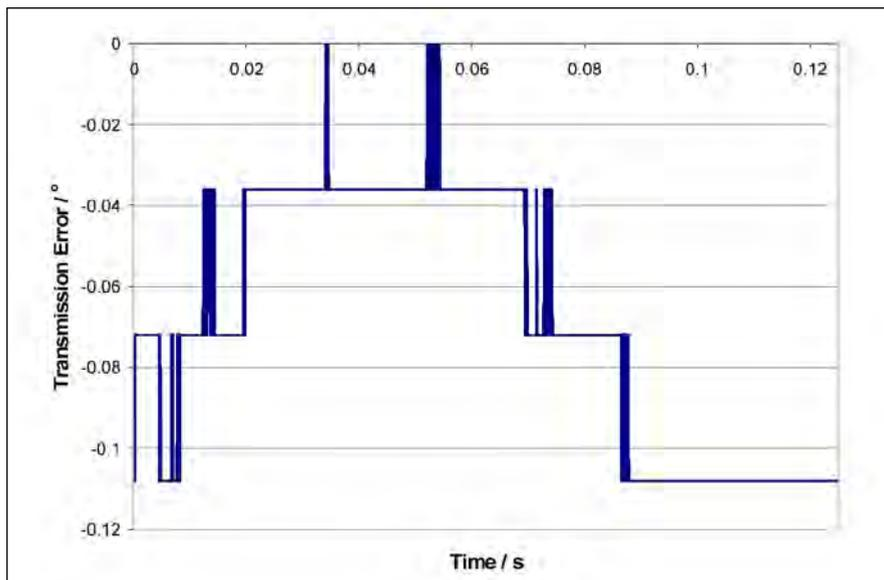

Figure 1—Transmission error with a steel shaft.
**Steel shaft.** The rig was set up with a solid steel shaft coupling the drive and brake in order to remove any effects related to the gears. The encoder data (Fig. 1) shows a small, cyclic variation in the transmission error equivalent to four bits of data; a mistaken measurement generally is of the order of  $\pm 2$  bits, this being equivalent to approximately  $\pm 0.08^\circ$  and the angular error being based on the encoders resolving to 10,000 bits/revolution. It thus appears that this may be the cause of